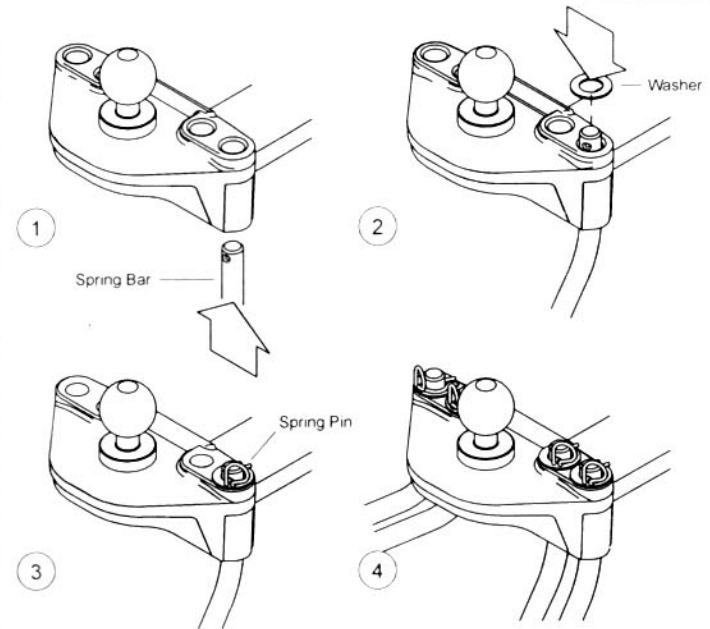

Fig. 5a
A. Place snap up brackets on to a frame at a distance between 450 to 660mm from the centre of the coupling. Fasten the bolts on the snap up brackets to secure brackets into place ensure that both snap up brackets are at equal distances (Fig. 5a).